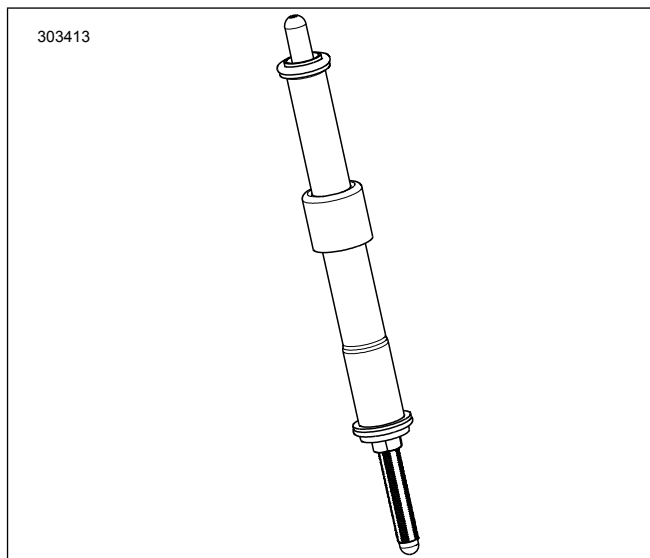

Figure 2. Pushrod Installed into Pushrod Cover
7. See Figure 2. Install the intake pushrods into the pushrod covers. Replace O-rings, lower pushrod cover and spring cover keeper with new components supplied in kit. Be sure adjuster end of pushrod is down.